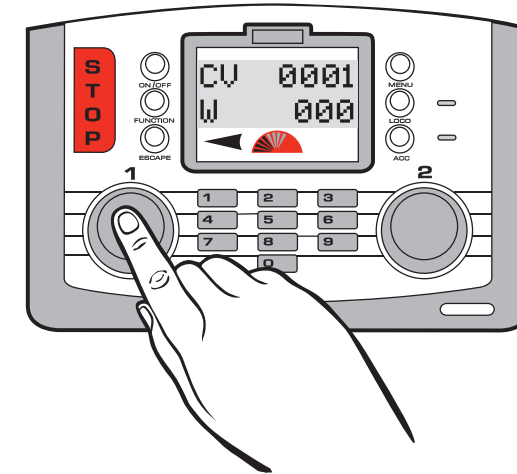

Fig 1
7. Press **Control 1**. Screen shows "**CV 0001 W 000**". See Fig 1.